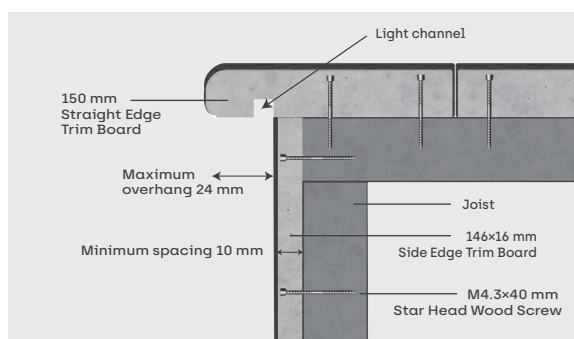

Figure 6-3
3. The maximum overhang for the SKINGRAIN straight edge trim board is 24 mm. A groove for LED strips may be reserved beneath the overhang. The maximum cross-sectional size of the groove is 12 mm (W) × 9 mm (H), with a minimum distance of 10 mm from the outer edge to the groove cut, as shown in Figure 6-3.